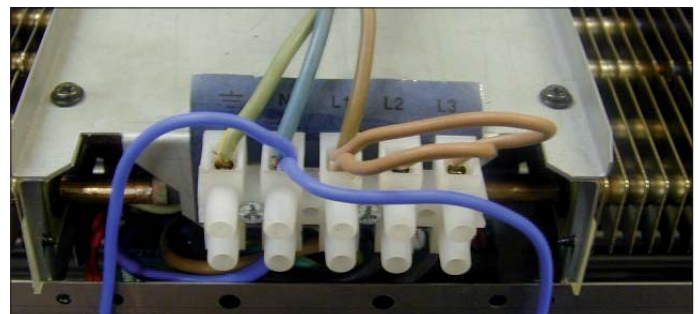

Figure 4.
4. Connect the brass ferrule end of the neutral link cable into the N of the terminal block (along with the Neutral of the single phase supply) as shown in Fig. 4.
5. Also shown in Fig. 4 is the supplied (brown) Live link cable, this should be linked from L1 (with connection of Live from single phase supply) to L2 & L3.